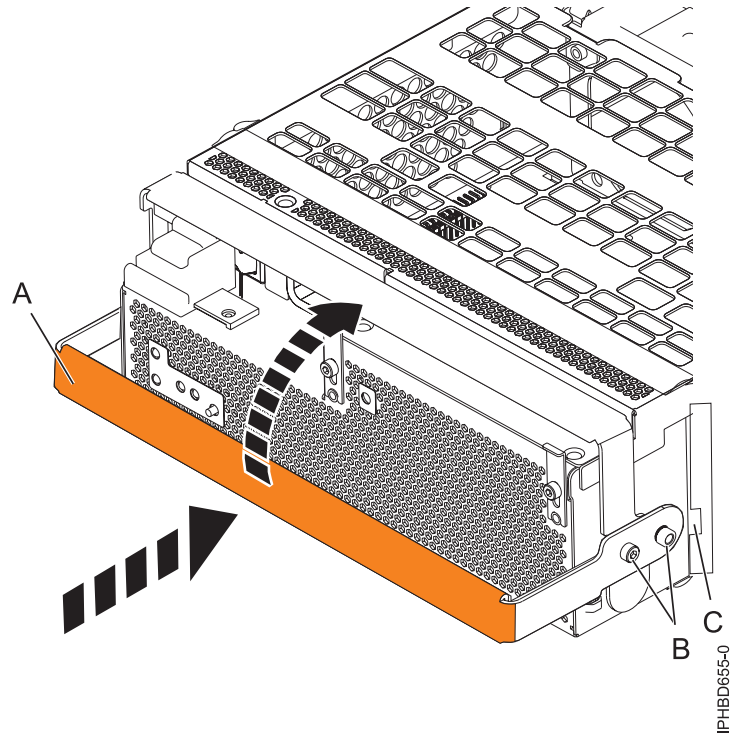

Figure 19. Replacing a power supply
6. To replace the power supply, with the locking handle (**A**) in the open position, push the power supply into the expansion unit as shown in Figure 19 on page 19.